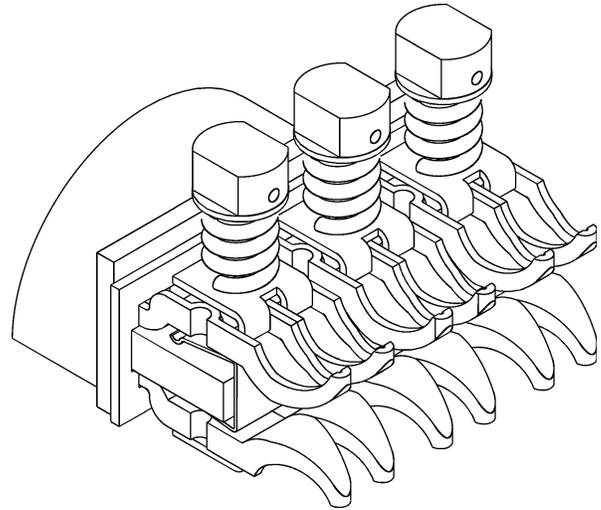
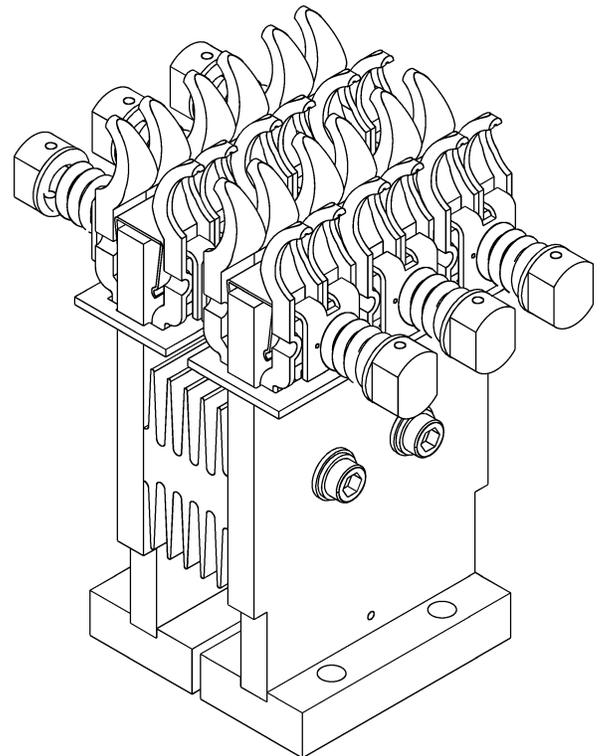

Figure 26. Lower primary disconnect assembly.
Figure 27. Upper primary disconnect outer pole assembly.
Primary disconnect assemblies are available in two configurations for the upper and lower terminals. Each pole on the lower disconnect requires two assemblies, illustrated in Figure 26 (one half of one pole shown). Each pole on the upper disconnect requires two assemblies and one inner heat sink, illustrated in Figure 27 (completed pole assembly shown) with two additional outer heat sinks on the center (B) pole.